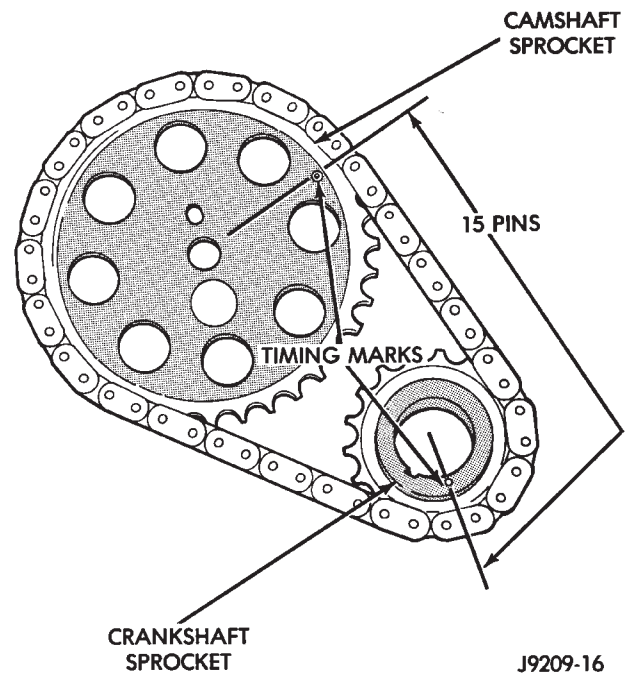

Fig. 8 Verify Sprocket/Chain Installation—Typical
(3) To verify correct installation of the timing chain, turn the crankshaft to position the camshaft sprocket timing mark as shown in Fig. 8. Count the number of chain pins between the timing marks of both sprockets. There must be 15 pins.
(4) Install the crankshaft oil slinger.
(5) Replace the oil seal in the timing case cover.